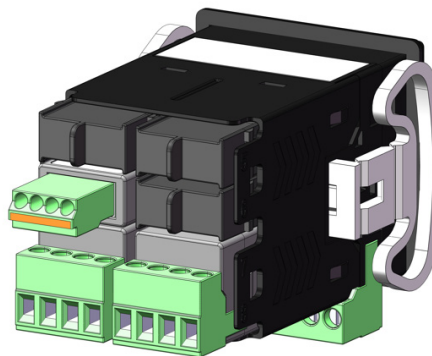

Figure 10 – Protecting slots
- Thermocouples:** Figure 10 shows the connection mode for thermocouple sensors. If you need to extend the thermocouple wires, use appropriate compensating cables.